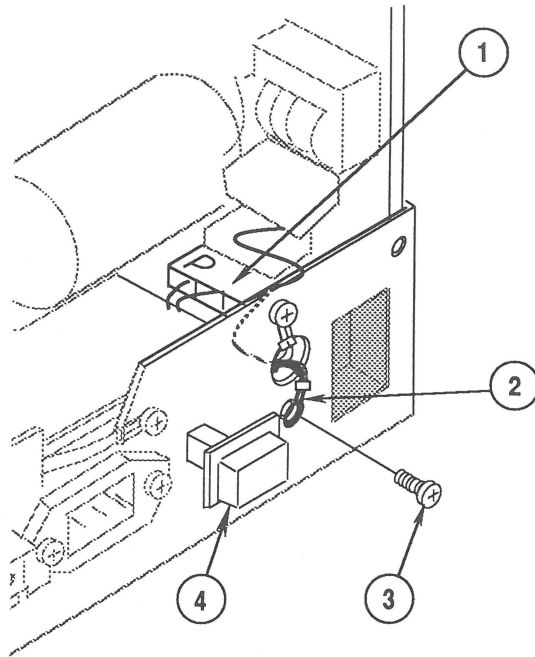

FIGURE 10
2. Reconnect the other end of the **P** connector (Figure 10, #1) to the main deflection board.
3. Pull the black ground wire (Figure 10, #2) through the hole in the AC input assembly mounting bracket.
4. Replace the AC input assembly on the chassis, and replace the ground wire and screw (Figure 10, #3).
5. Replace the plastic knob (Figure 10, #4) on the On/Off switch.